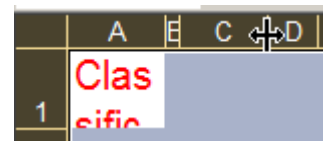

Figure 7-71. Column Divider in Excel Spreadsheet
16. While all cells are still selected, double-click on any column divider to expand all columns to a default width (Figure 7-71).